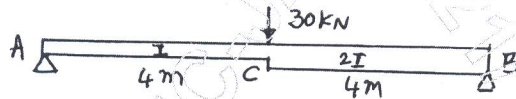

Fig.Q2(c)
c. Find deflection at 'C' for the beam shown in Fig.Q2(c). Take $EI = 8000 \text{ kN-m}^2$. Use conjugate beam method.